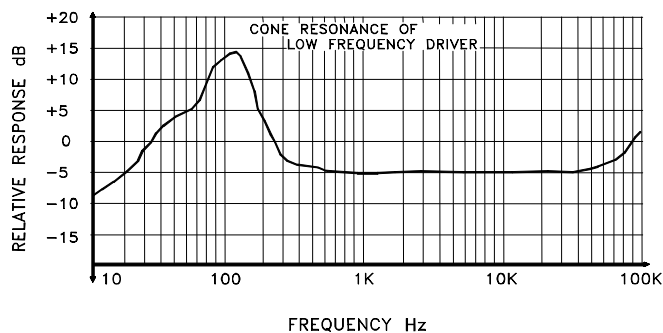

FIG 8. TESTING SPEAKER SYSTEMS AND IMPEDANCE NETWORKS
A. Connect equipment as shown in Test Set-Up in FIG. 8 for frequency response measurement except that the signal input to the speaker or impedance network is monitored. The oscilloscope may be used to verify that this instrument is not in a clipping condition.
D. In speaker testing, a pronounced increase of voltage will occur at some low frequency. This is the resonance frequency of the speaker systems(FIG. 8). The speaker enclosure will modify the results obtained from the same speaker without an enclosure. A properly designed enclosure will produce a small peak on each side of the peak obtained without an enclosure. the enclosure designer can use the response characteristics to evaluate the effects of varying port sizes, damping materials and other basic enclosure factors.
- a. Connect a variable resistor in series with the impedance network as shown in FIG. 8